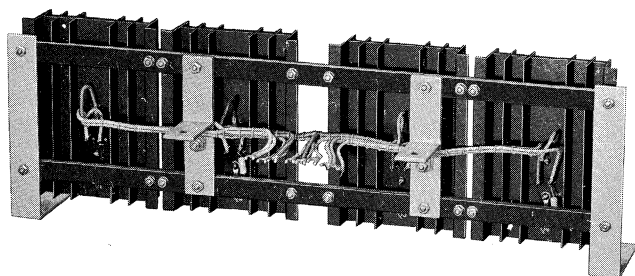

Fig. 4 — KS-19303 L3 Converter Power Transistor Assembly
Note: Positive dc input (terminal 2) is connected to chassis ground by a jumper. This protects Q1 through Q4 transistors on the power transistor assembly (Fig. 4) against damage in case input battery polarity is incorrect. If desired, this jumper can be removed once proper input connections have been made.
5.04 Q1 through Q4 transistors are part of a separately removable heat sink assembly. In the event of failure of any Q1 through Q4 power transistors, it is recommended that this entire heat sink assembly be replaced. (See Fig. 4.)